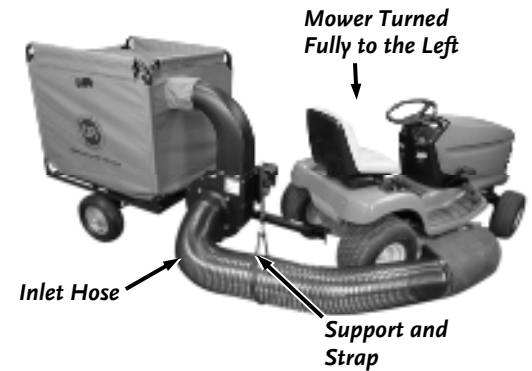

Figure 56
3. Turn the Mower all the way to the left, while watching the Hose (**Figure 56**). The Hose should not become too taut to twist or damage your Lawn Deck Adapter.
Note: The Tractor must be turned fully to the left (**Figure 56**).